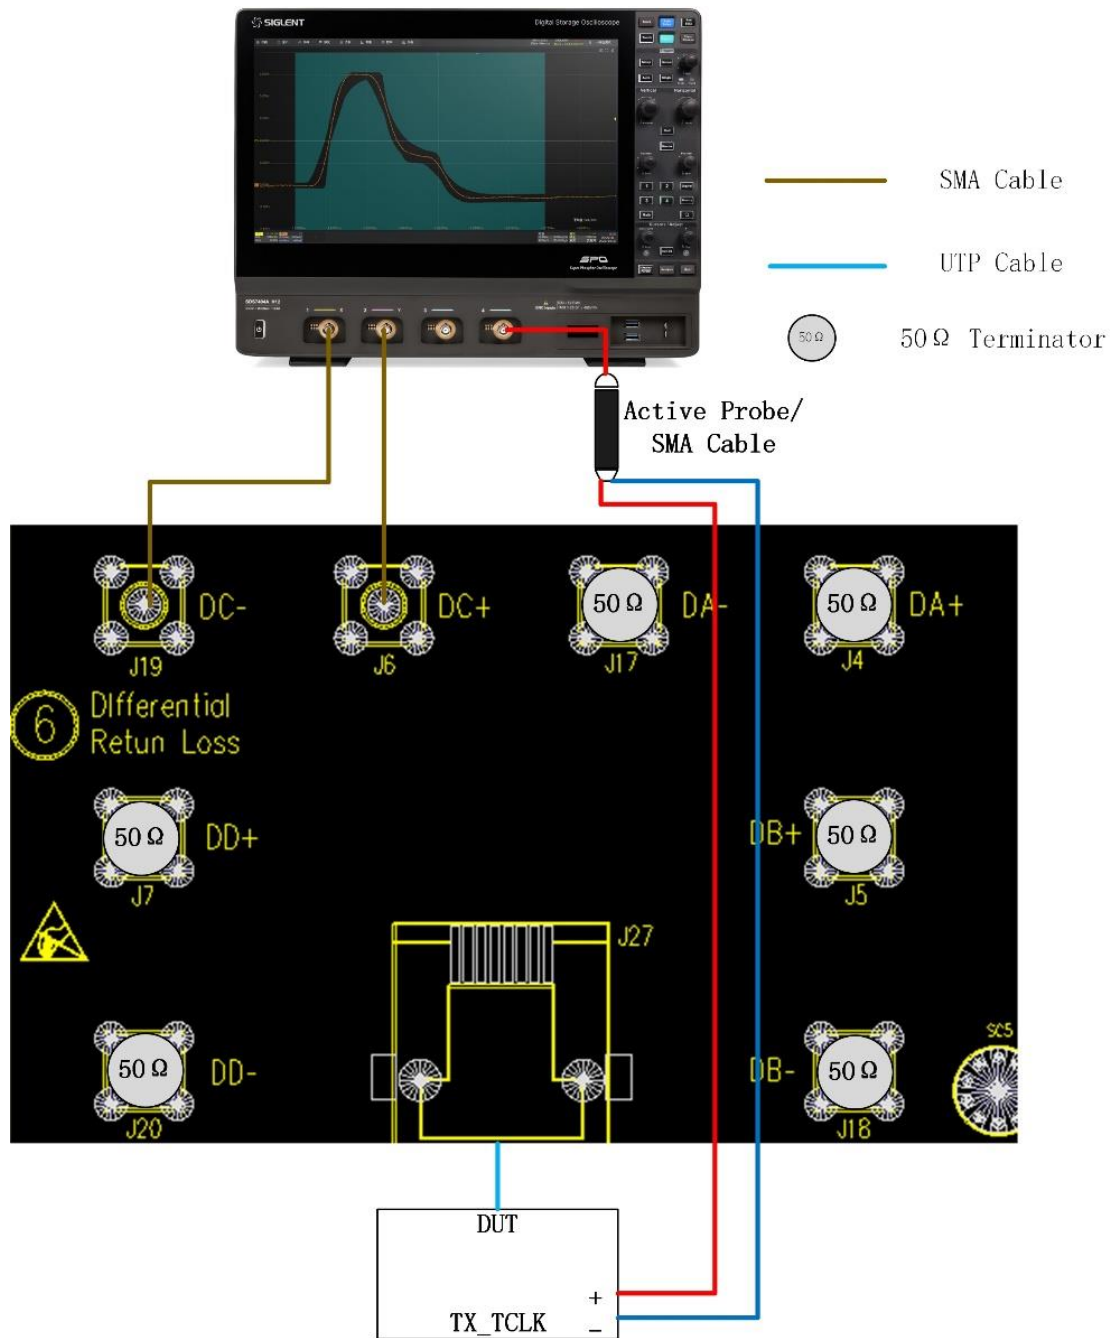

Figure 10-3 Connection of section ⑥ on test fixture for Master Mode JTXOUT test
The connection with section ⑥ on the test fixture which supports SMA cables to probe the MDI signal, which is shown as Figure 10-3, the test step is as follows:
- (1) Use a short UTP cable to connect the DUT to the J27 connector on section ⑥ of the test fixture.
- (2) According to the signal pair being tested, using two SMA cables with equal length to connect the corresponding test points {DA(J17, J4), DB(J5, J18), DC(J6, J19), DD(J7, J20)} on section ⑥ of test fixture to two input channels of the oscilloscope.
- (3) Connect the other unused test points on section ⑥ of the test fixture to 50Ω terminators.
- (4) Connect the DUT's TX\_TCLK to one input channel of the oscilloscope by using an active probe or a SMA cable.